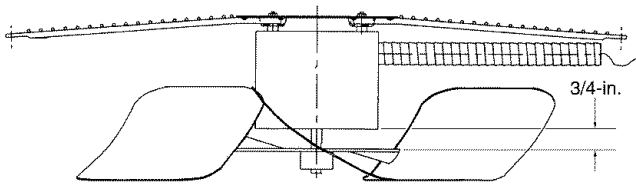

Fig. 40 — Condenser-Fan Adjustment
Condenser-Fan Adjustment (Fig. 40)
3. Adjust fan height as shown in Fig. 40.